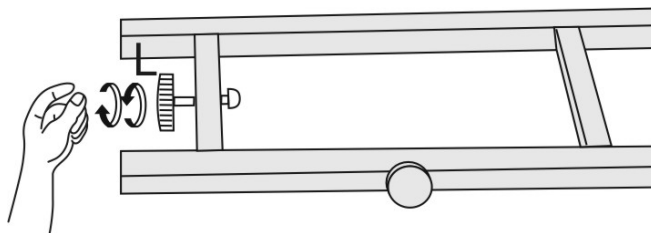

Figure 11
12. Tighten threaded knobs (L) found on tank tray (Figure.11) so that the LP tank cannot move from side to side. Do not remove plastic cap from end of threaded section.